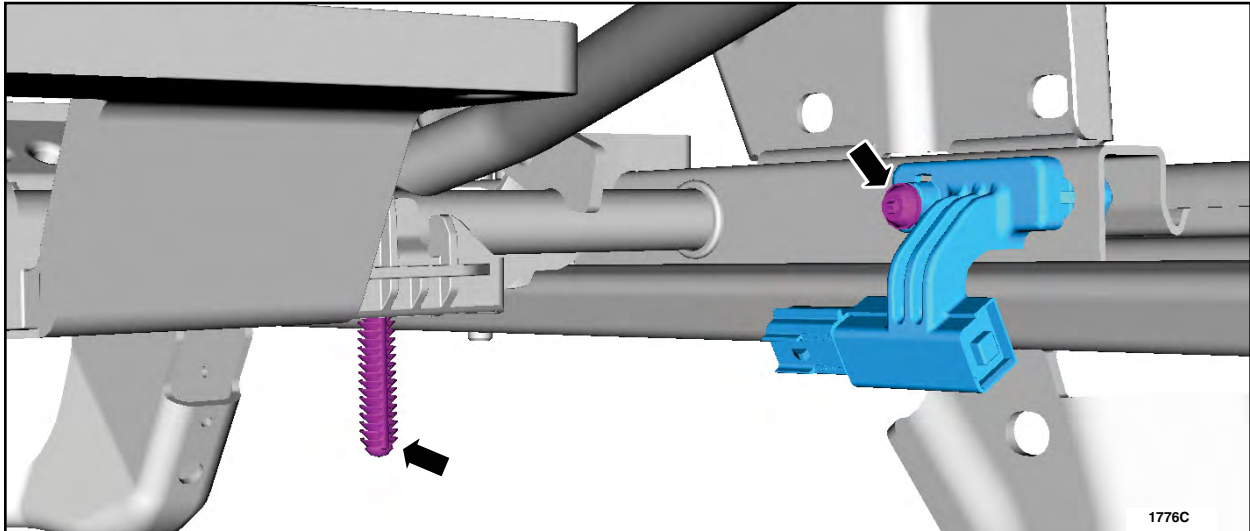

FIGURE 3
C. Transfer the seat position sensor and harness anchor point. See Figure 3.